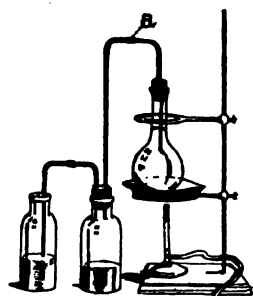

Fig. 31.
Powder and put into a flask about 10^g NH_4Cl and 7^g $\text{Ca}(\text{OH})_2$ (freshly slaked is best). Add 20^{cc} H_2O and connect with Wolff bottles containing H_2O (Fig. 31), as in the HCl exp. Heat 10 or 15 minutes, using a plate and asbestos paper. Observe the phenomena, especially the pressure in the different bottles and the absorption of gas, and write the reaction. While the mixture is heating, do III.
(1) Disconnect the flask while the gas is escaping (*a*, Fig. 31), put 2 or 3 drops HCl into an e.d., and pass the gas over it from the gen. Observe the fumes, giving equation. (2) Let the flask cool as it stands, and test the liquid in each bottle (odor and litmus). Put sol. (5^{cc} each) of the following substances into separate tubes, and add a little of the prepared liquid to each: (3) FeSO_4 ; (4) FeCl_3 ; (5) AlCl_3 . Observe colors, especially of ferrous and ferric cpds. (6) Test likewise CuCl_2 sol., first with very little NH_4OH , then with excess. State and explain all phenomena.